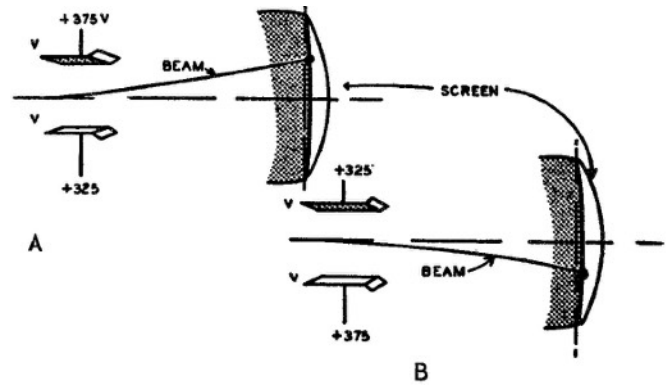

Figure 8: The beam always moves in the direction of the plate having the higher positive voltage
Figure 8 depicts the effects of a difference of potential between a pair of plates. In Figure 8 (A) the upper plate is positive with respect to the lower. The electron beam, being negative, is attracted toward the upper, more positive plate. Since the voltage on the upper plate also acts to pull the beam forward, the net result is that the beam strikes the screen above the mid-point. In Figure 8 (B) the polarity is reversed, causing the beam to strike the screen below the mid-point.